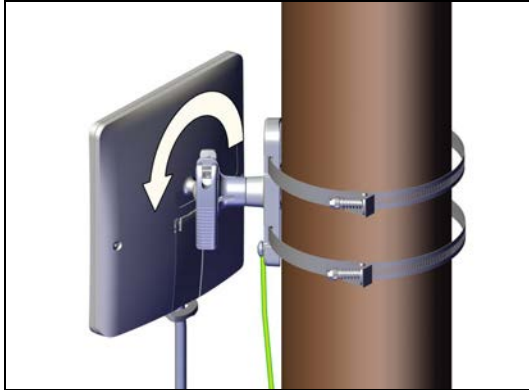

Figure 2-58: Tighten arm on mount: SU **PRO/AIR** EMB radio unit
- If the unit requires more tightening, use the hex screw with a 5mm hex key as shown in Figure 2-58.